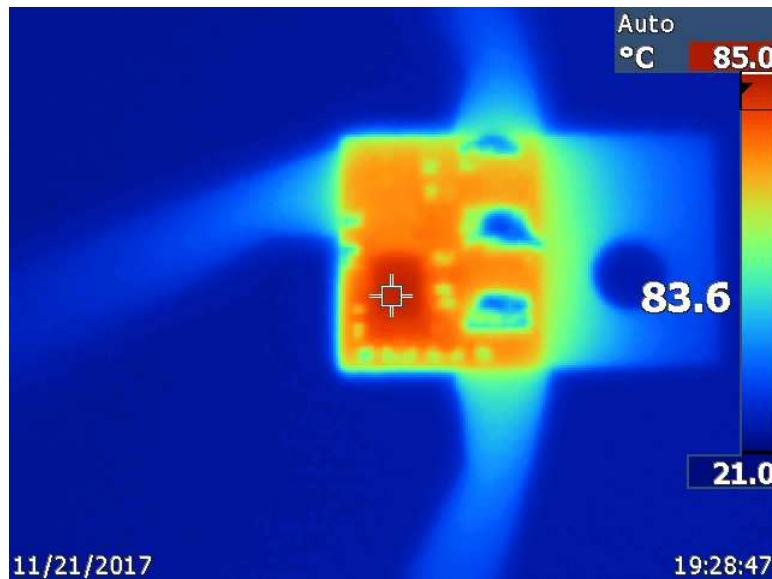

図 17. Thermal Image at 24 V_{IN} , 5V_{OUT} , 600 mA I_{OUT}
The infrared (IR) thermal image in 図 17 was taken at the steady state with 24 V_{IN} and the LMR36006 output at a load of 600 mA (no airflow). The ambient temperature is approximately 22°C. The maximum IC temperature is 85°C.